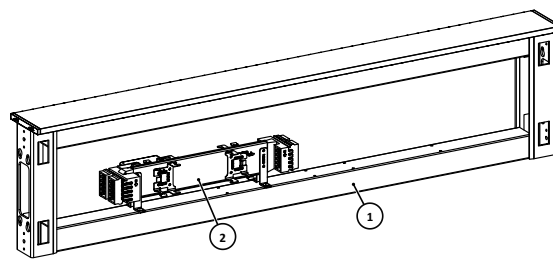

Figure 2
STEP 2: Install the receptacles (4) in the mounting bracket on the power distribution box (2), as shown in Figure 2. Note that there are an arrow and the letter "N" to indicate the correct orientation (up).